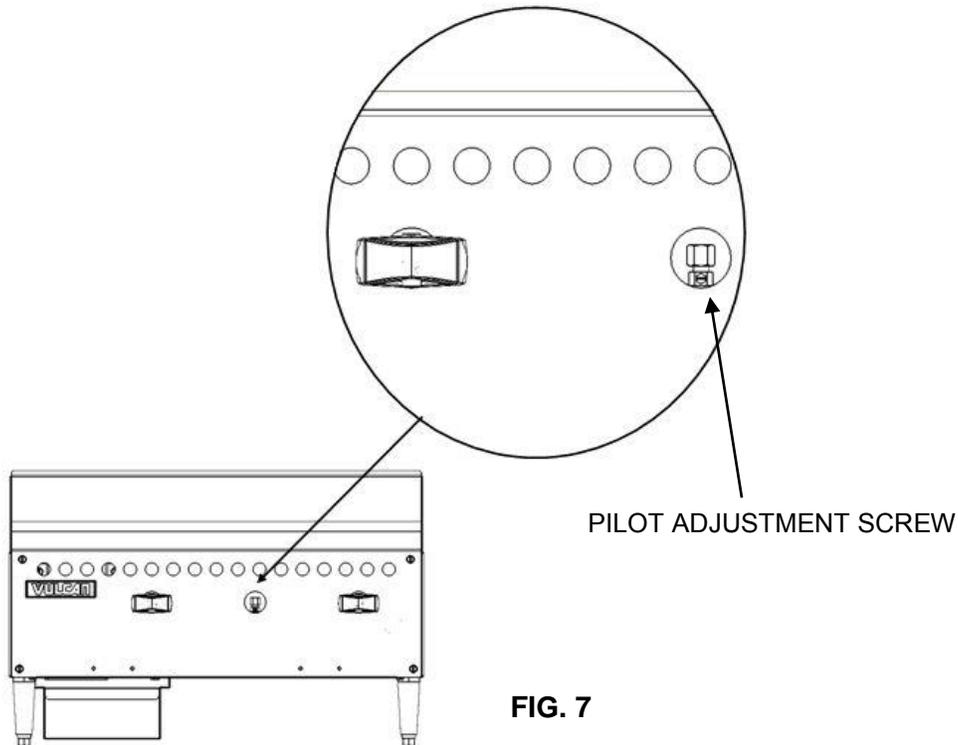

FIG. 7
3. While viewing through the pilot sight hole, you will have to reach under the front of the unit and through the pilot cutout to ignite the pilots with an outside ignition source (such as a lit taper, etc.). It may be necessary to adjust the pilot valve to increase gas to the pilot. See Fig. 7 on page 11.
Using a flathead screwdriver, turn the slotted hex-head pilot adjustment screw clockwise to decrease the flame, and counterclockwise to increase the flame. See Fig. 7.